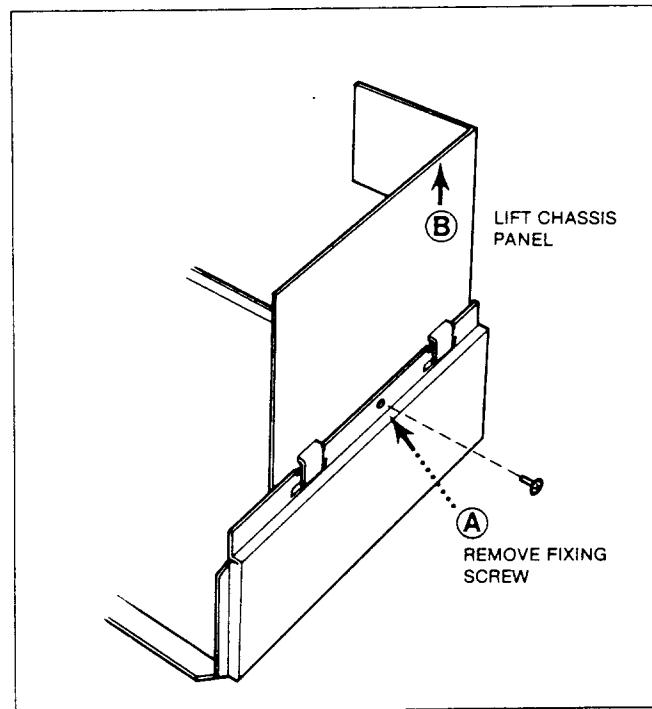

FIG R2 R SERIES FIXED POSITION
### SERVICE ACCESS (*Figure R2, R3*)
The side PCBs may be tilted to Service Access positions as shown in Figures R2, R3.
1. Remove the fixing screws (A) (fig R2).
2. Lift the panel (B) (Fig R2).